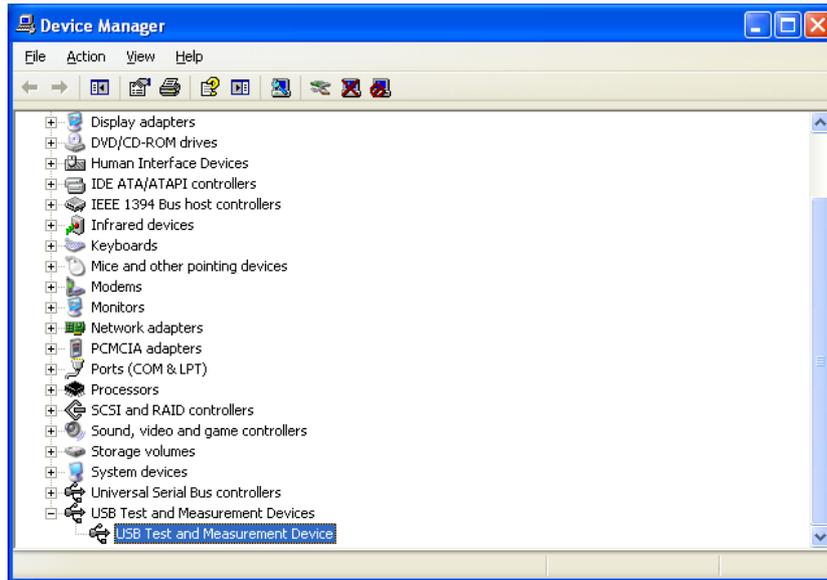

Figure 6-8 PC has installed USBTMC drive
**Install drive:** The installing steps of USBTMC are the same as that of USBCDC, see 6.2.3.1 for reference. When the installation of drive is finished, user can see “USB Test and Measurement Devices” in the device manager of PC, as shown in figure 6-8.